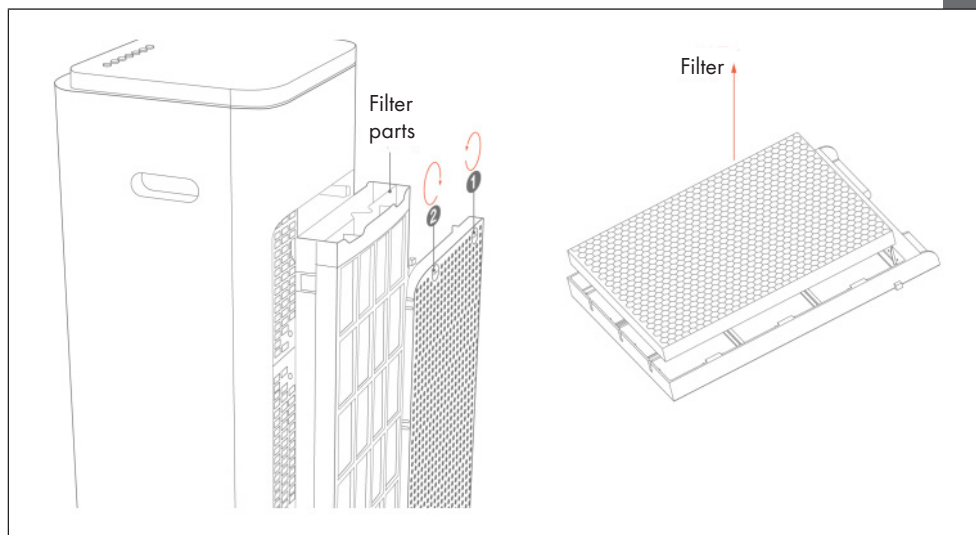

Figure 3
2. Catch the filtration mesh handle and pull upwards (see figure 3).